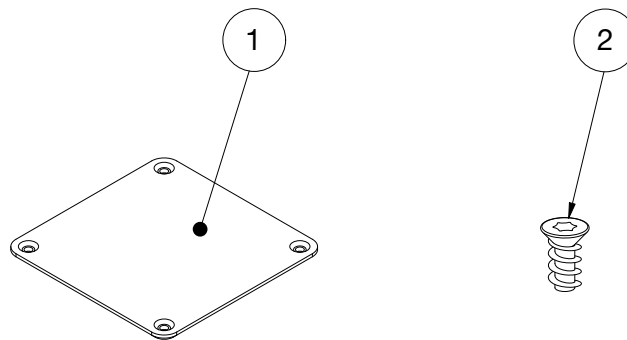

Figure 4.1 - Components
Please note that the cover option (item 1 - figure 4.1) can be used to close the lower screw connection of the VERAS17i loudspeaker.